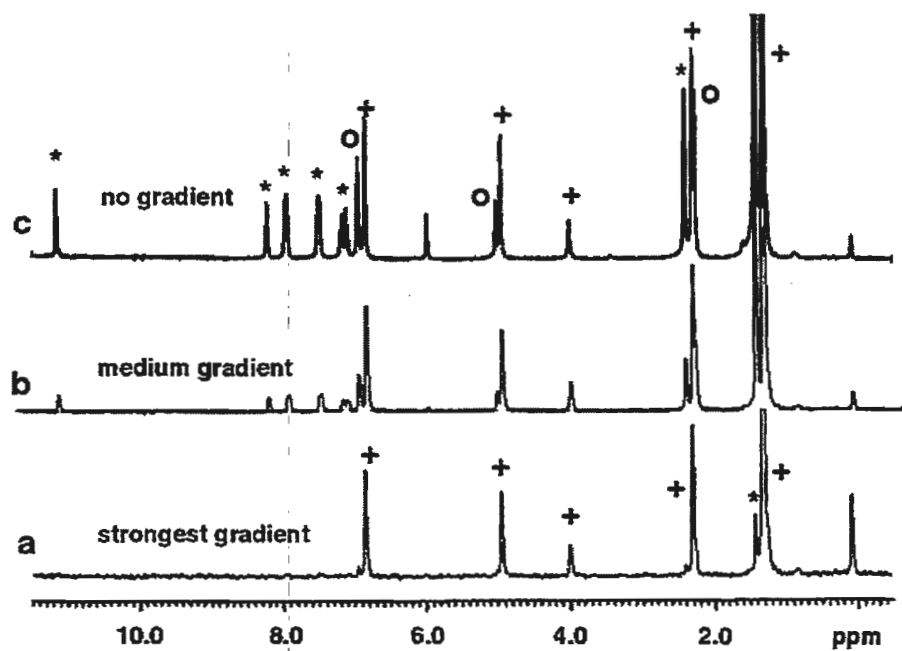

Figure 1. Removal of faster diffusing components at stronger gradients to reveal highest molecular weight component.
In the case of mixture analysis, it may not be necessary or even desirable to determine numerically the diffusion coefficient. In this case, we use PFG-NMR as a spectral editing tool based on the differential diffusional properties of the components of the mixture. Despite the very evident simplicity of this approach, the utility is still rather great. This approach is illustrated in Figure 1 for a mixture of 3 common polymer anti-oxidants (3). At higher gradient amplitudes, the resonances of the faster diffusing components have been eliminated, and one observes a clean spectrum of the highest molecular weight component. When this same technique is applied to samples containing polymer, a clean spectrum of the polymer may be obtained without interference from the low molecular weight additives. Further details and applications may be found in reference 3.